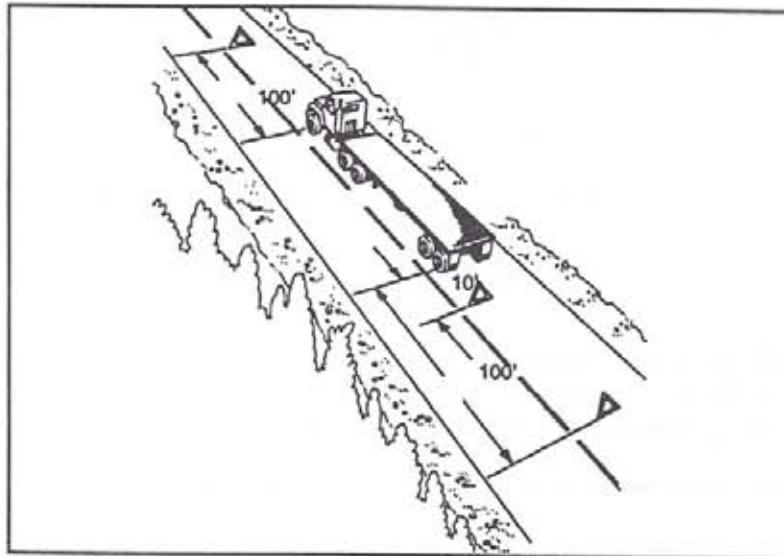

Figure 2-8
- If you stop on a two-lane road carrying traffic in both directions or on an undivided highway, place warning devices within ten feet of the front or rear corners to mark the location of the vehicle and 100 feet behind and ahead of the vehicle, on the shoulder or in the lane you stopped in. (See Figure 2-8.)